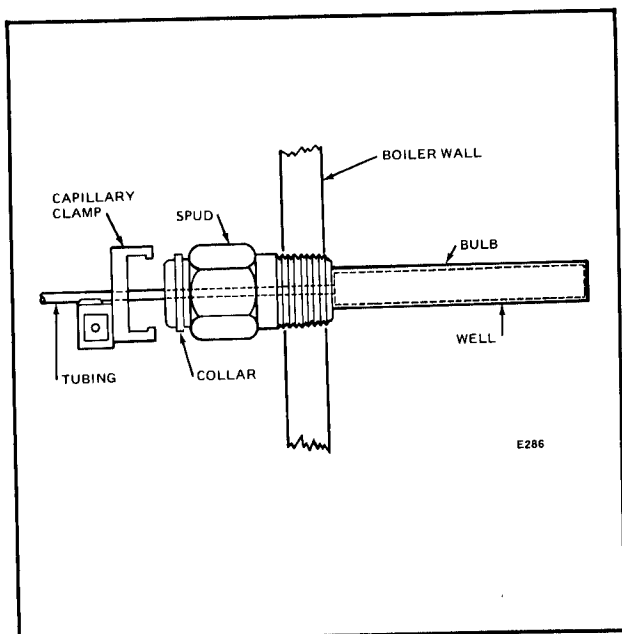
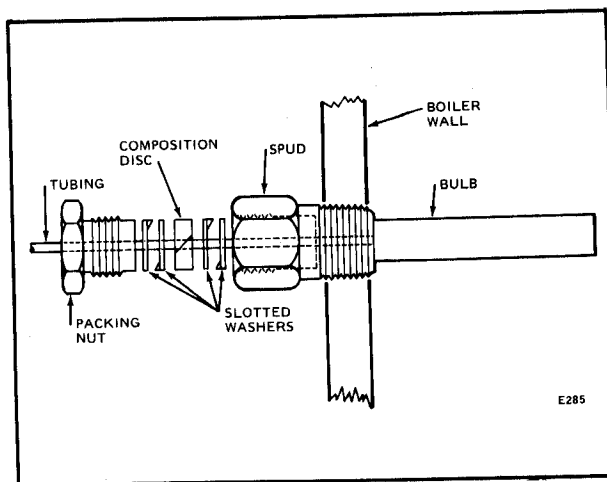

FIG. 8—IMMERSION WELL ACCESSORY.
FIG. 9—COMPRESSION FITTING ACCESSORY.
2. Hot water: Boiler fittings (Figs. 8 and 9):
The indoor bulb must be immersed in the boiler of hydronic heating systems. To mount the bulb, use an immersion well accessory (Fig. 8) or a compression fitting accessory (Fig. 9), or other mounting means recommended by boiler manufacturer. An immersion well should be used if high water turbulence or vibration is encountered at the bulb location.
6. Place composition disc and four slotted washers on tubing in order shown in Fig. 9. Turn washers so that slots are 180 degrees apart.